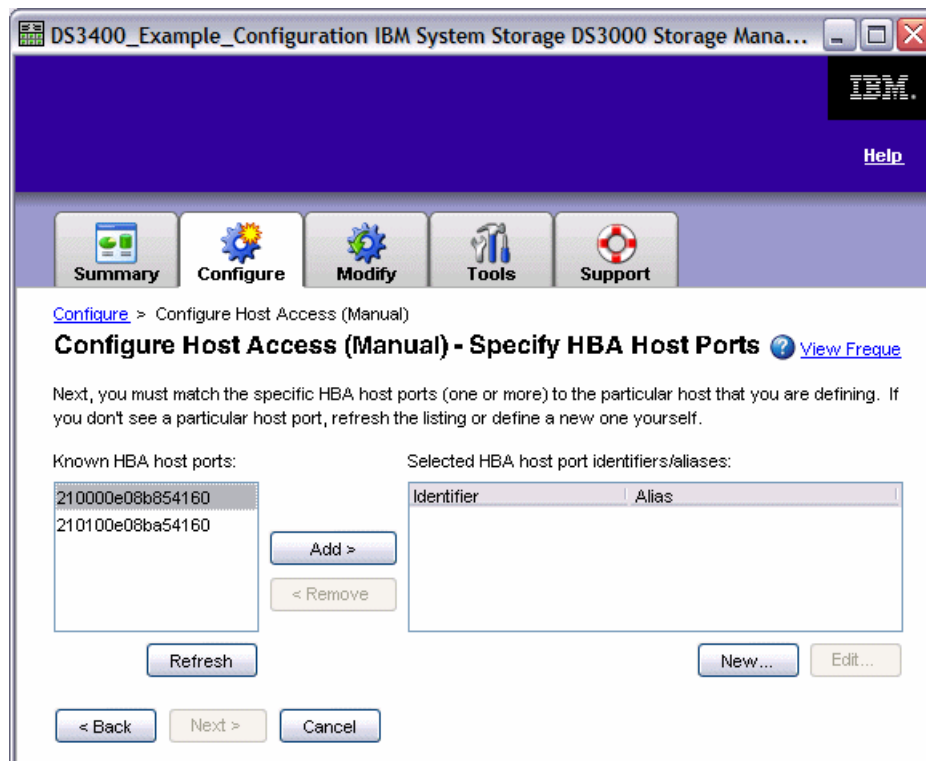

Figure 26-9 Specify HBA Host Port
3. Specify the HBA host ports. Remember, we have to specify the first HBA port only. Its WWN is 21:00:00:E0:8B:85:41:60. Select this WWN and click **Add**, as shown in Figure 26-9.